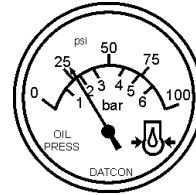

Figure 42. Oil Pressure Gauge
12. The engine oil pressure gauge (Figure 42) will indicate the oil pressure (kg/ cm²) of the engine. Under normal operating conditions the oil pressure should be approximately 25 psi.